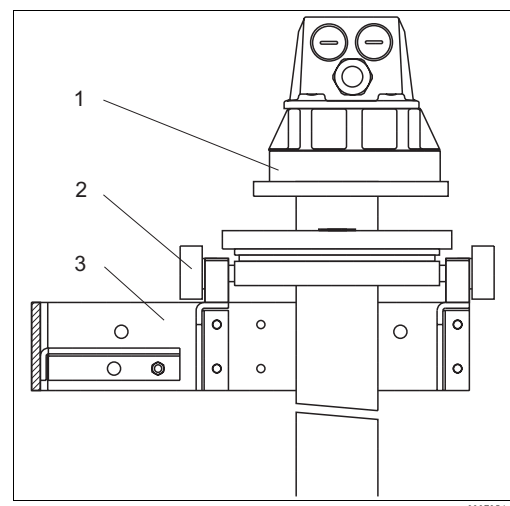

Fig. 14: CPA111 mounted with pendulum frame
6. Hang the assembly into the pillow blocks of the pendulum frame (Fig. 14).